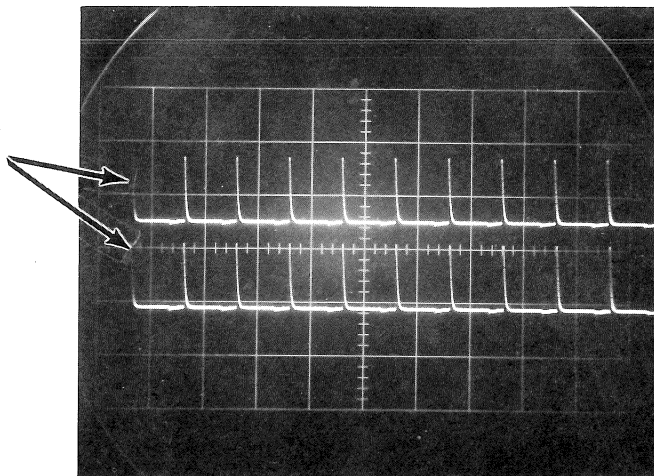

Figure 69
3. Adjust B SWEEP UNBLANKING compensator (C186-See Figure 68) so that the intensity at the start of B sweep (the first time mark) matches the intensity at the start of A sweep. (See Figure 69)